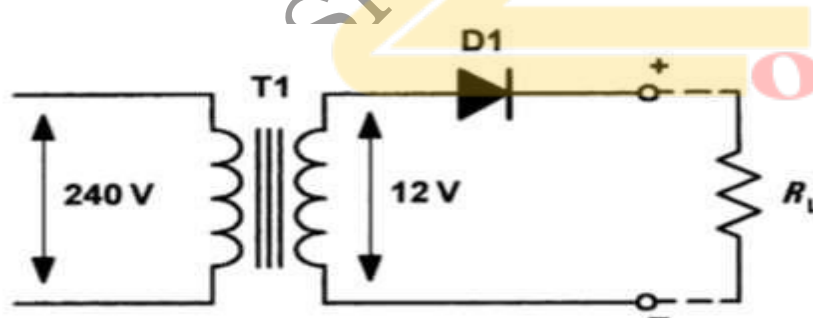

Figure 1.3 A simple half-wave rectifier circuit
- The simplest form of rectifier circuit makes use of a single diode and, since it operates on only either positive or negative half-cycles of the supply, it is known as a **half-wave rectifier**. Fig. 1.3 shows a simple half-wave rectifier circuit.